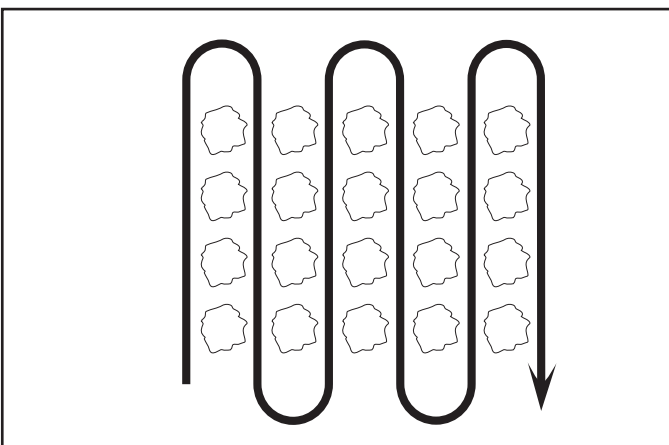

Fig. 14
- You will find tilling much easier if you leave a row untilled between passes. Then go back between tilled rows. (See Fig. 14) There are two reasons for doing this. First, wide turns are much easier to negotiate than about-faces. Second, the tiller won't be pulling itself, and you, toward the row next to it.
- Cultivate up and down the rows at a speed which will allow tines to uproot weeds and leave the ground in rough condition, promoting no further growth of weeds and grass (See Fig. 14).